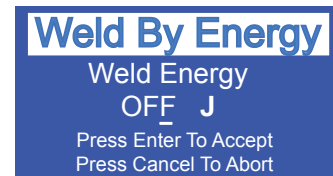

Figure 5-6A Navigate to Energy Mode - 2
2. The phrase, *Enter Changes Mode*, means when the ENTER key is pressed, the mode will change. So press the ENTER key, and the Weld by Energy screen seen in Figure 5-6A appears.